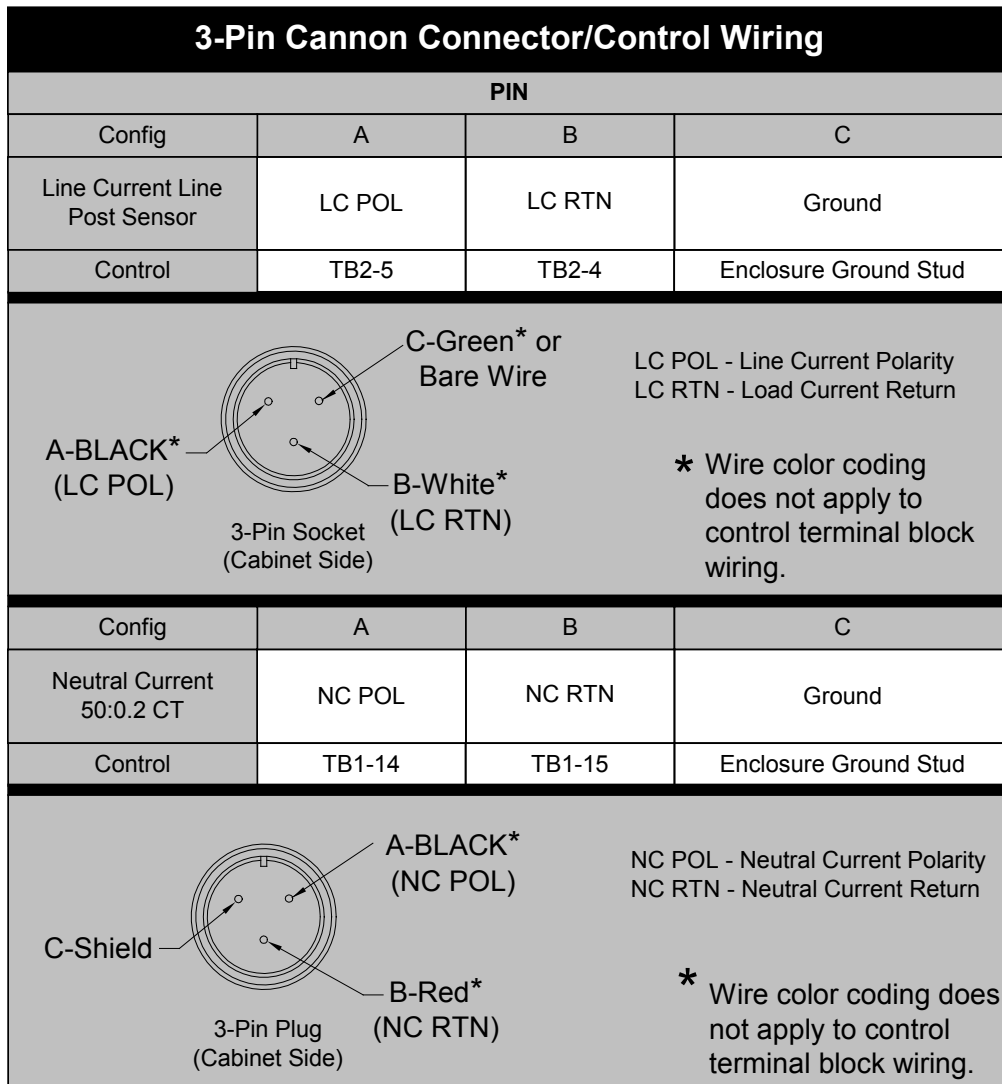

Figure 12 3-Pin Cannon Plug Configurations
- 15 KV Fisher Pierce Line Post Sensor - Includes 35 ft. cable with 3-Pin Cannon connector (Figure 12)